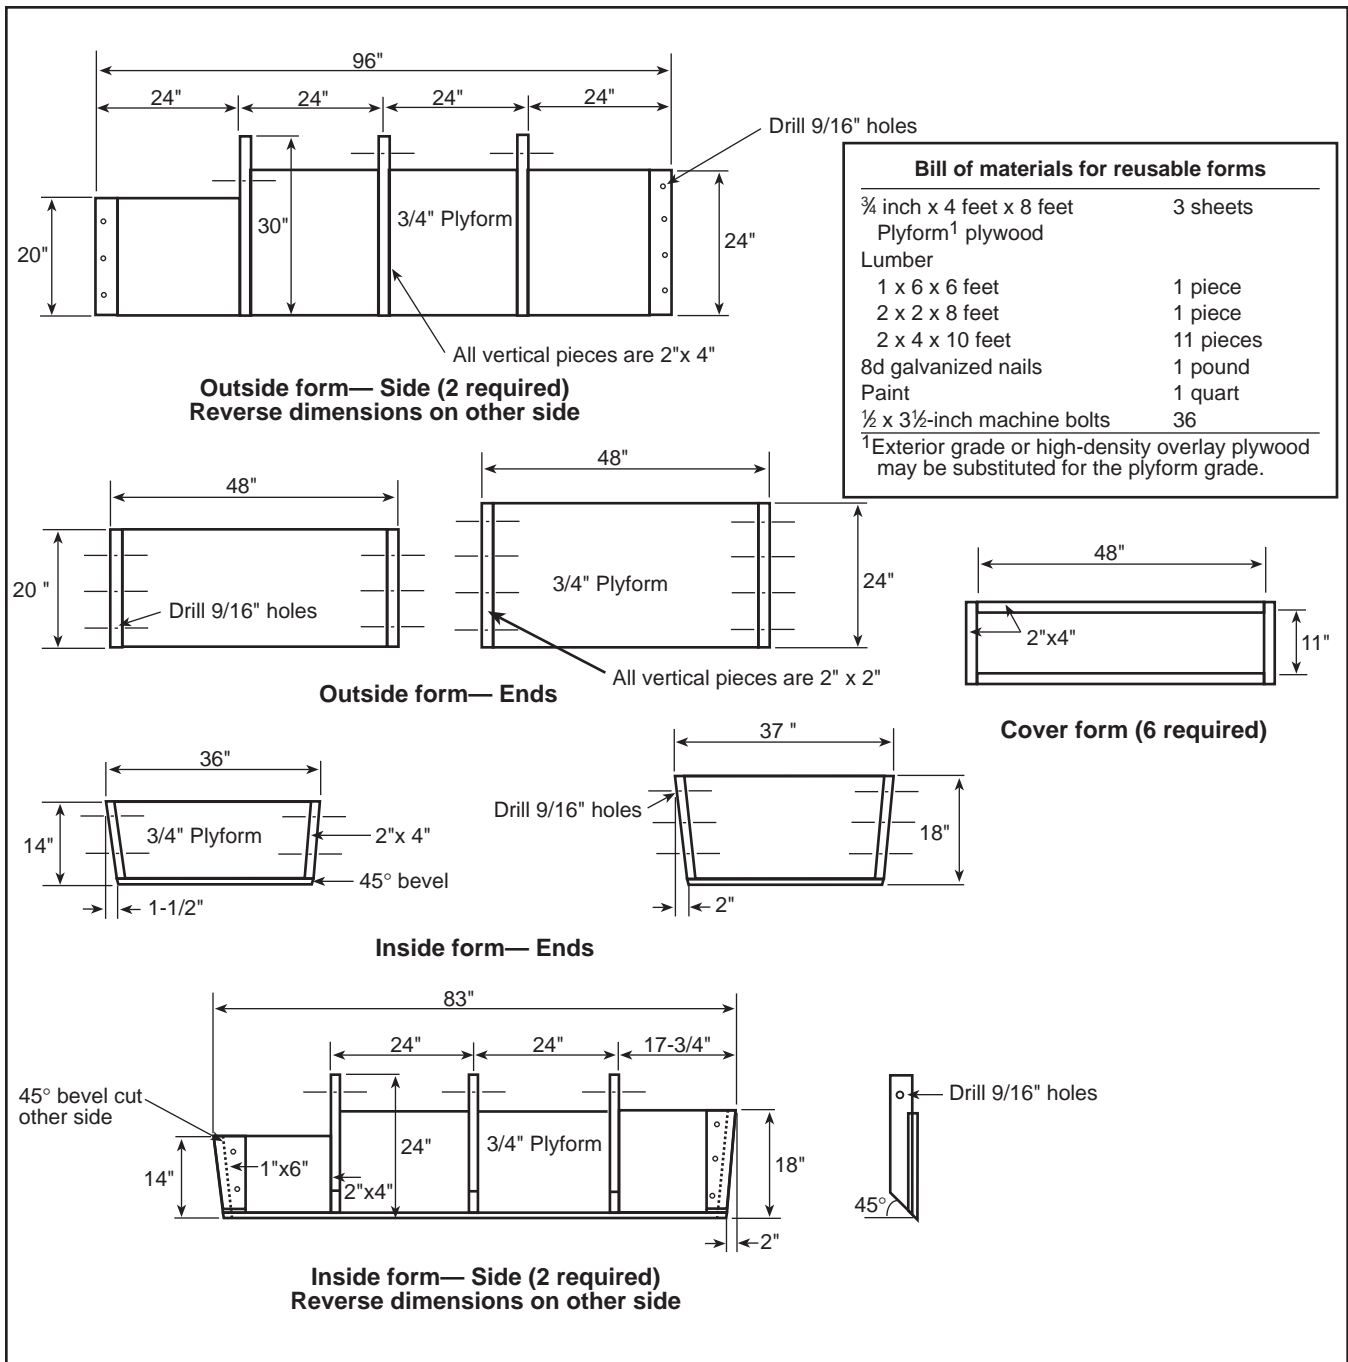

Figure 6. Construction of reusable forms for concrete stock tank.
Use the plans shown in Figure 6 and the construction steps that follow to build a set of forms that may be reused many times. These steps should be followed in constructing forms.
- See Figure 6 for construction details.